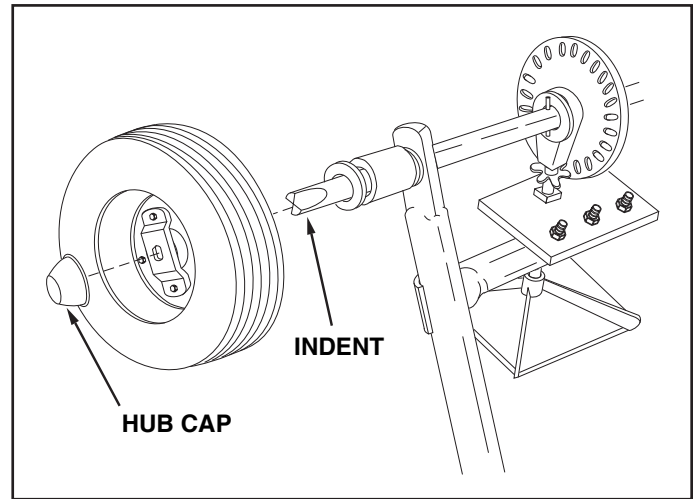

FIGURE 5
- Place the drive wheel onto the end of the axle that has an indent. The long end of the hub goes to the inside. See figure 5.
- Place a hub cap onto the end of the axle. Using a small hammer, lightly tap the hub cap until it is snug against the wheel. See figure 5.
1. If the axle, slotted gear and sprocket assembly is disassembled, mark down the positions of the parts as they are removed. The drive wheel and sprocket positions in relation to the slotted gear determine which direction the spreader plate will spin. Be sure to reassemble them in their original positions. (Refer to figure 5 on page 3.) Use shim washers (Ref. no. 21 on pages 6 and 7) as needed for minimum backlash. Add grease to gear and sprocket.